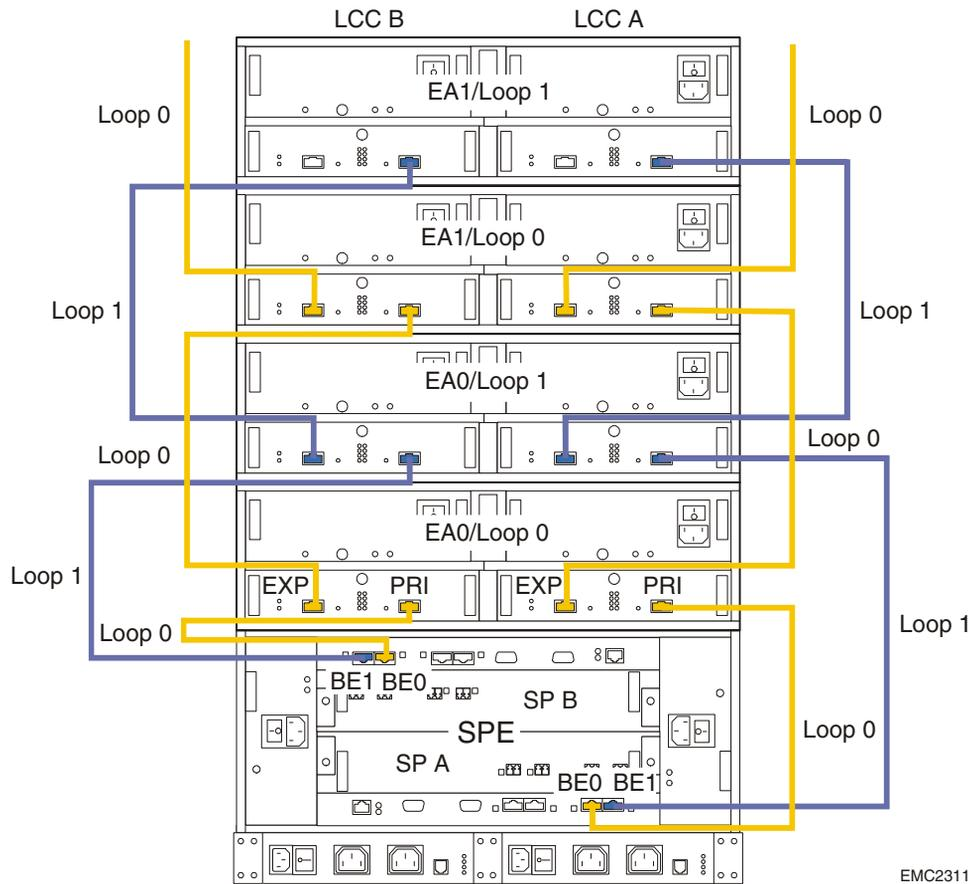
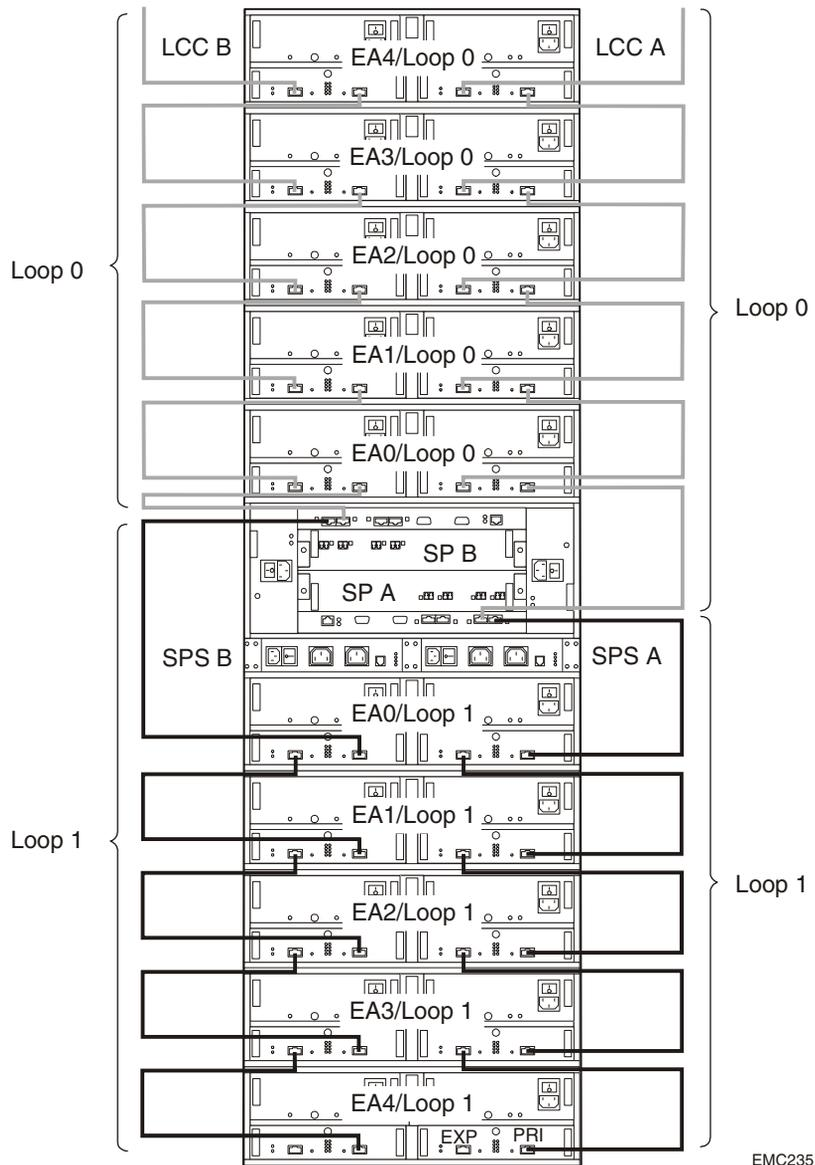

Figure 2-5 Cabling Disk Enclosures Together — Standard Configuration
Figure 2-6 Cabling Disk Enclosures Together — Segregated Loop Configuration
5. If you are installing multiple disk enclosures, cable them as shown in Figure 2-5 or Figure 2-6.
The example configuration in Figure 2-5 shows a CLARiiON® CX600 storage processor enclosure (SPE) below four DAE2 disk-array enclosures. The five devices support two completely redundant loops. Note that the external device connects to the *Primary* disk enclosure connectors, and subsequent enclosures connect in an Expansion-to-Primary chain.
All DAE2 configurations follow the same primary-to-expansion connection principles. For example, Figure 2-6 shows two segregated loops connecting contiguous disk enclosures.